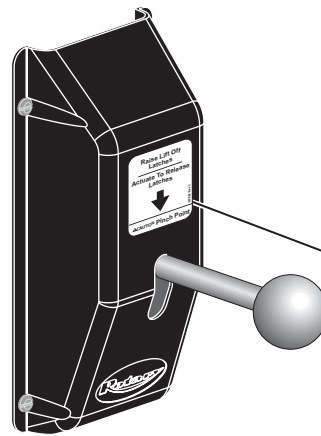

Fig. 44
33. Latch Release Decal For M Series Lifts: Install latch release decal on cover above latch release handle, Fig. 44.